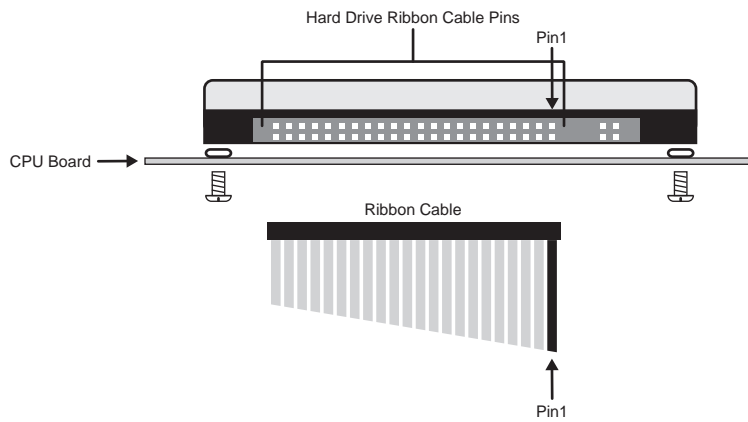

Figure 18.16 CPU Board — Ribbon Cable Alignment
10. Remove the **Ribbon Cable** from the **Hard Drive** you just removed and install it onto the replacement **Hard Drive**. Ensure that the stripe on the **Ribbon Cable** is aligned towards the four unused pins as illustrated (**Figure 18.16**).
Caution — Ensure that you connect the **Ribbon Cable** to the pins illustrated (**Figure 18.16**). If the **Ribbon Cable** is not properly connected, your **Hard Drive** could be damaged when the switcher is powered On.